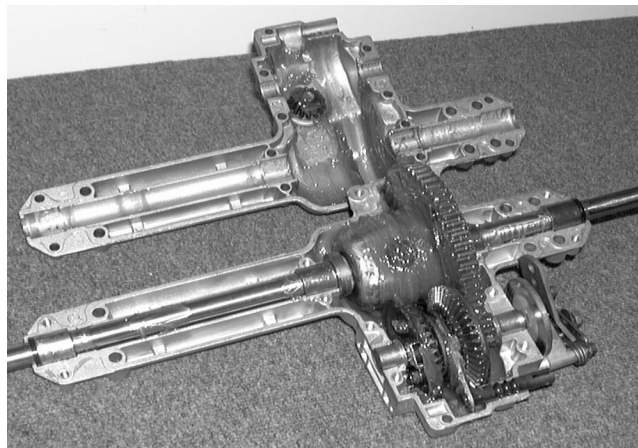

FIGURE 3.
- 8). Remove the upper transmission housing. See figure 3.